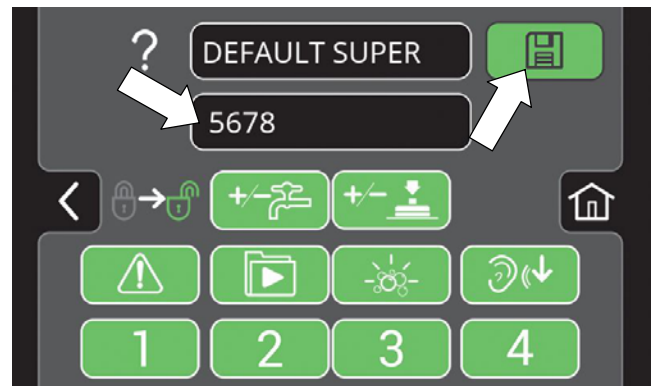

FIG. 186
5. Press the factory-assigned login code and enter a new login code (Figure 186). Press the flashing save button to save the new login code.